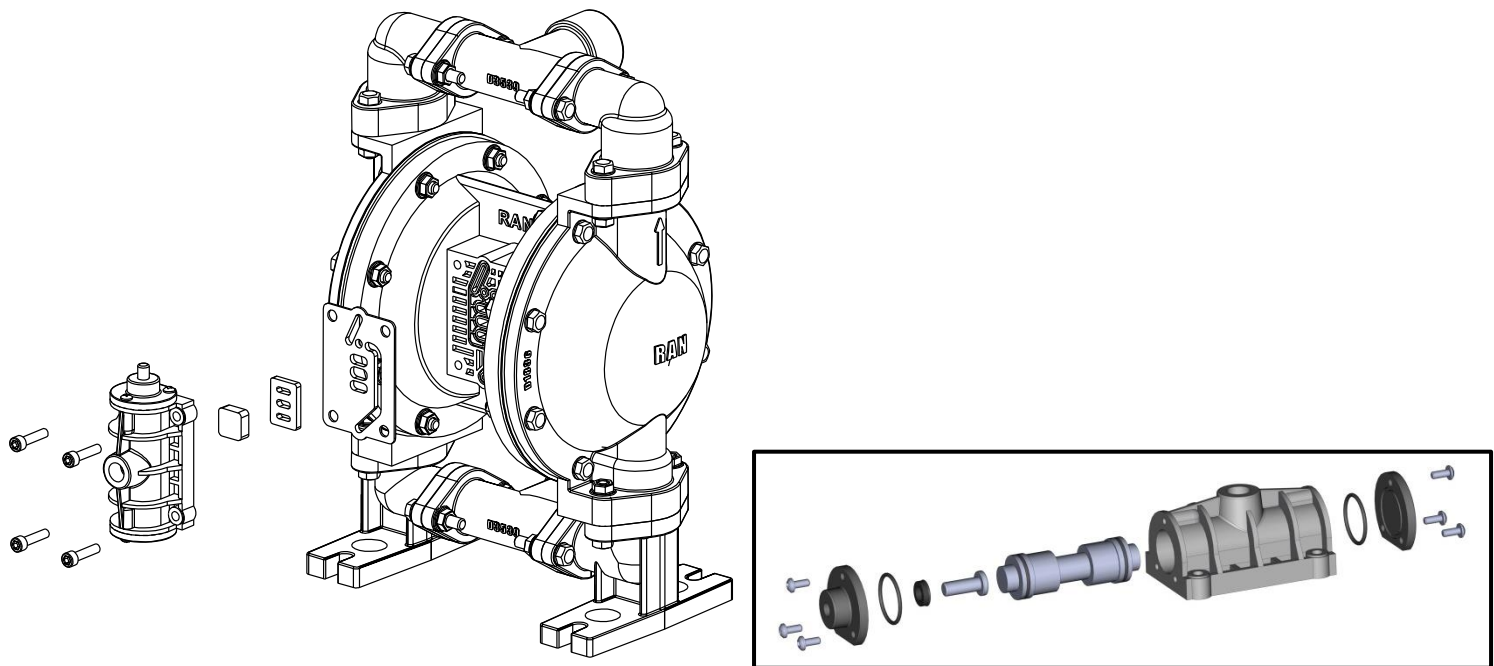

Figure 13- Air valve repair
*This explanation uses figures defined in part (7.0) line (12) fig. 13.*